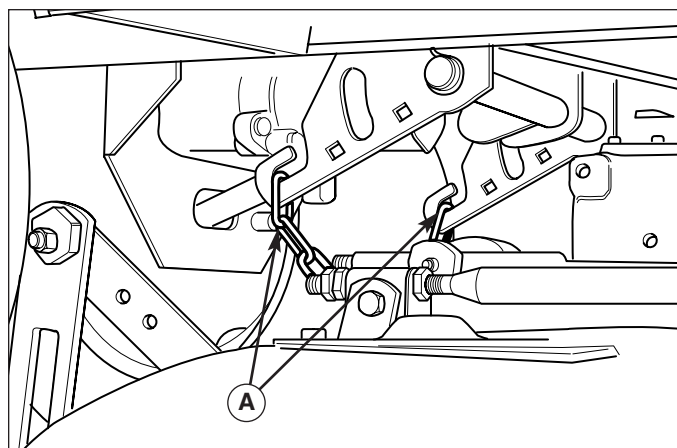

Figure 14. Mower Lift Chains
7. Make sure the mower lift chains are directly below the lift arms. Attach the 2 mower lift chains to the tractor lift arms (Figure 14).